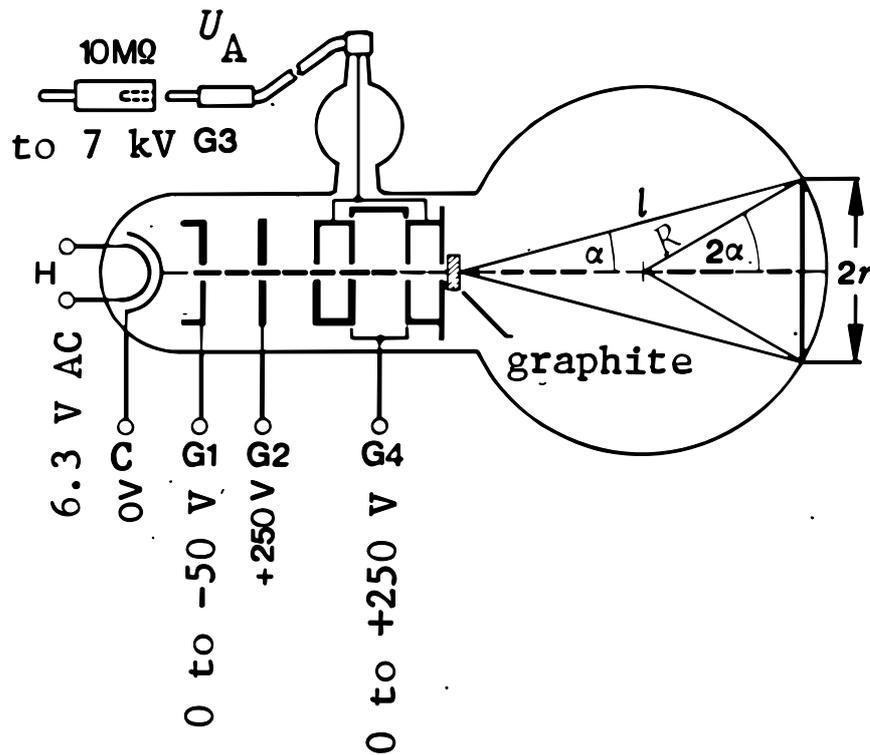

Fig.1. Electron diffraction vacuum tube
In the present experiment observations are to be made using the electron diffraction vacuum tube with graphite lattice placed inside it (Fig.1.). The high speed electrons are produced by the electron gun (H,G1 - Fig.1.) and by means of electronic lens system (G1, G2, G4, - Fig.1.)they are brought into the narrow beam.
The electrons beam strikes the polycrystalline graphite film deposited on a copper grating (see Fig.1.) and is reflected.
Bragg angle θ - can be calculated from the radius of the interference ring but it should be remembered that the angle of deviation - α - (see Fig.1.) is given by - Eq.5.:
From Fig.1. one can find that - Eq.6.:
1. Check out connections of the terminals of the electron diffraction tube to the power supplies – compare it with Fig.1.(H, C, G1, G2, G4).